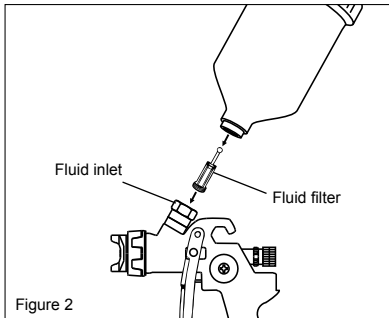

Figure 2
1. Take out the spray gun and install the paint filter into the fluid passage of the spray gun. Thread the paint cup into the spray gun until the cup is securely in place. (See Figure 2)